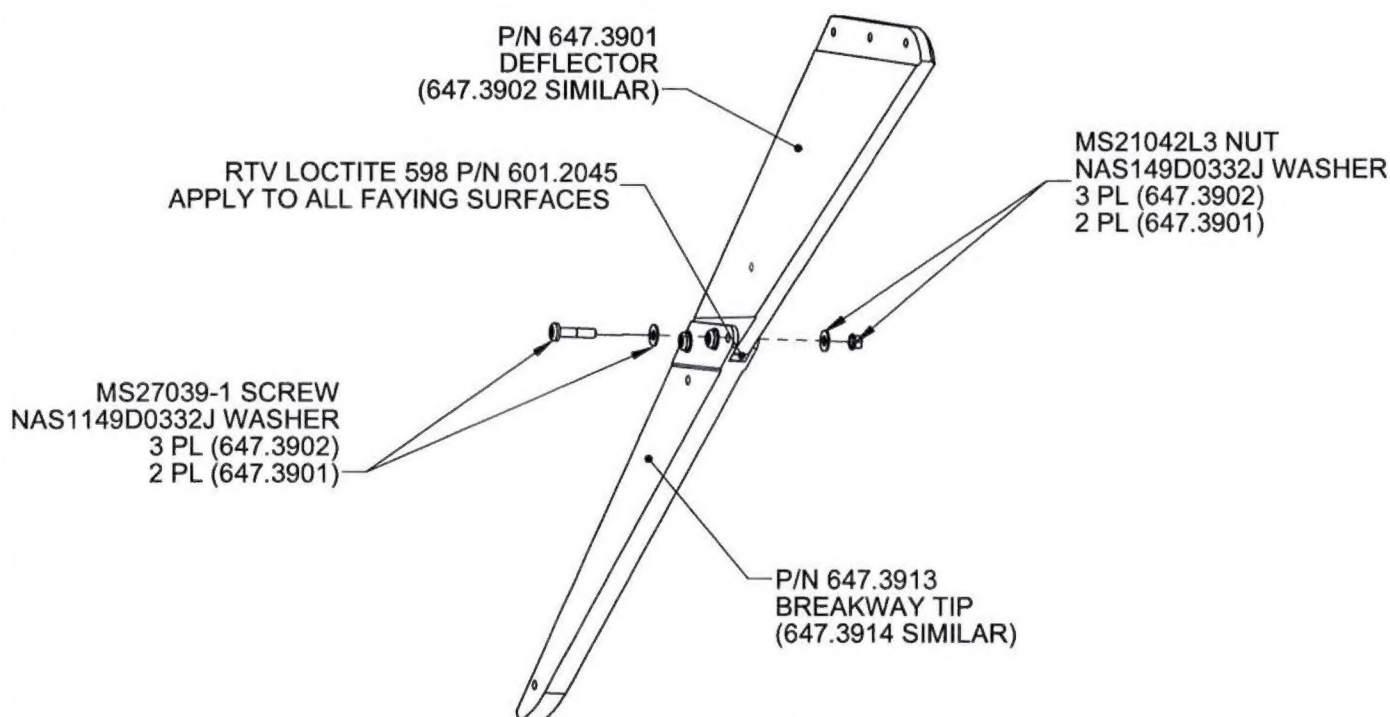

FIGURE 2: RE-INSTALLATION OF BREAKAWAY TIP
3.1 If no equipment interferes with the installation of the Breakaway Tip, it is acceptable to reinstall per Section 5.3.3 of the ICA412-101 by replacing Rivet P/N 601.3074 with MS27039-1 Screws, NAS1149D0332J Washers, and MS21042L3 Nuts per Figure 2. Apply RTV (Loctite 598 or equivalent) to all faying surfaces. Torque screws 20-25 in-lbs (2.2-2.8 N.m).